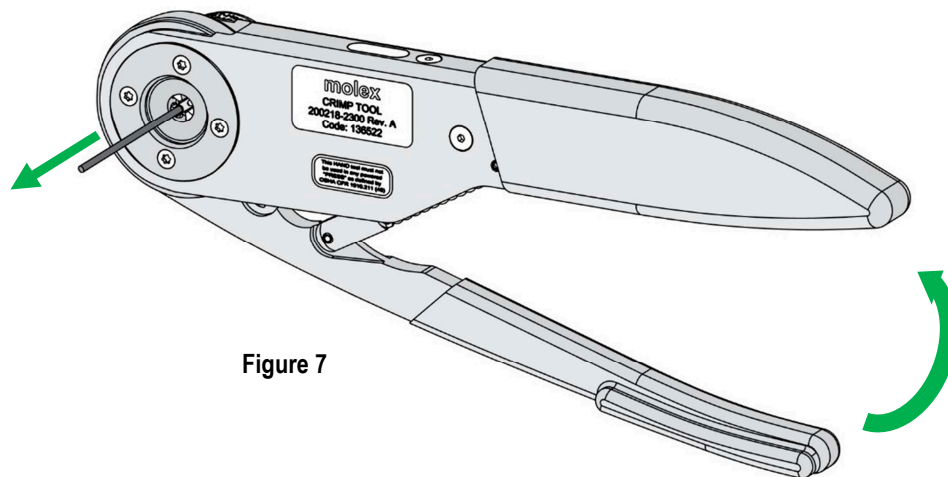

Figure 7
4. Squeeze the tool handles together until the ratchet releases. The tool will then return to the open position. See Figure 7.